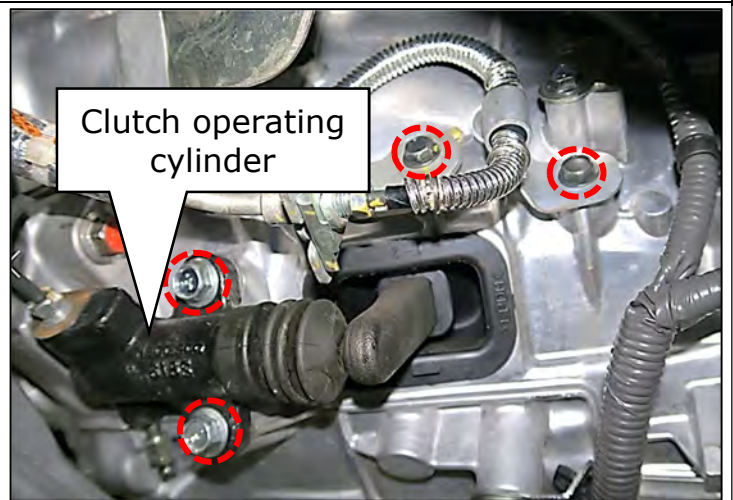

Figure 45
47. Remove the clutch operating cylinder. (Figure 45)